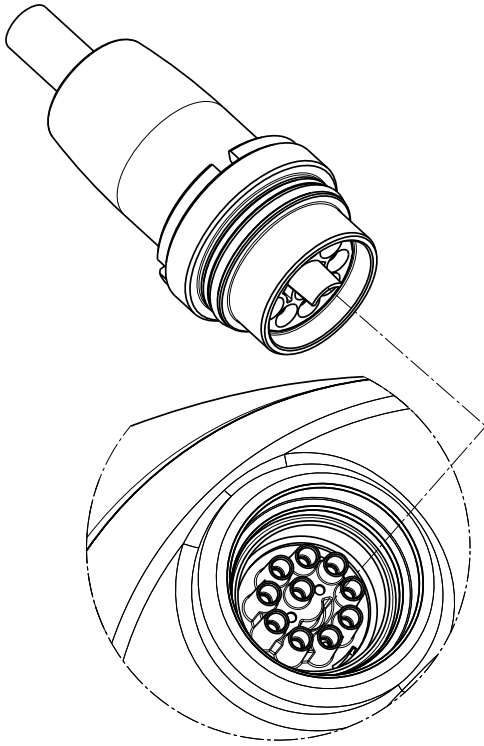

Fig. 2 Plug with the pin
- Connect the cable plug to the cable entry hole of product housing. The guide pin on the cable plug has to fit into the socket. See fig. 2.